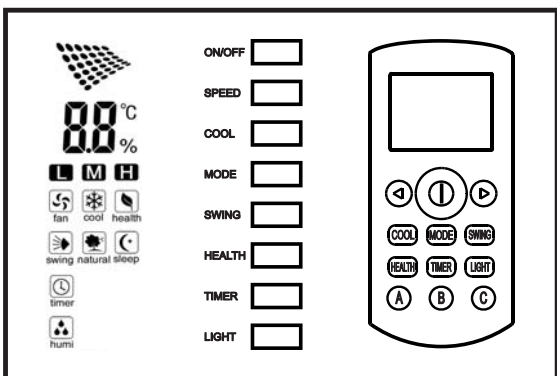

Fig. 7
▶ **4.2. PANEL STEROWANIA, UŻYTKOWANIE I FUNKCJE DLA MODELU BC35 (Rys. 7):**